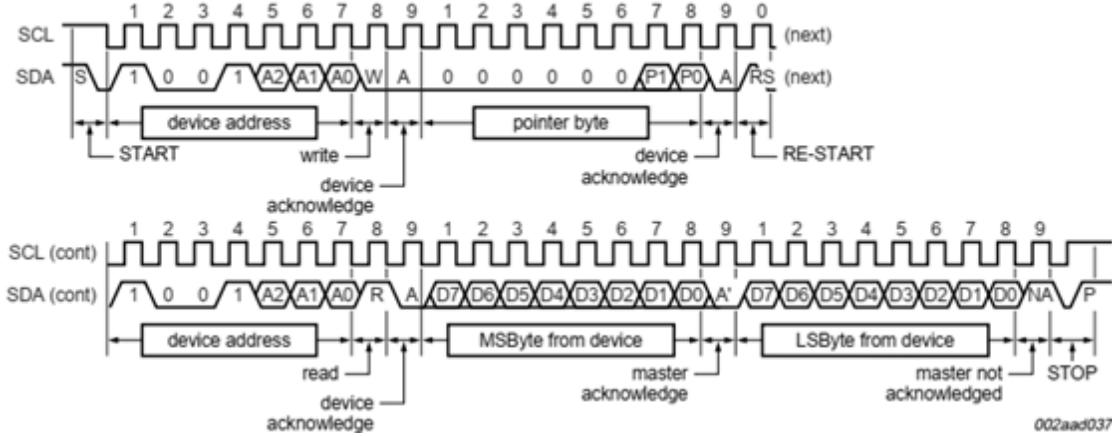

FIGURE 2.5 – Read Temp, Tos or Thyst registers including pointer byte (2-byte data).
4. Complete the *lm75a_readRegisterWithPointer()* function to read *Temp*, *Tos* or *Thyst* registers including pointer byte by helping you figure with the Figure 2.5. Build the program.